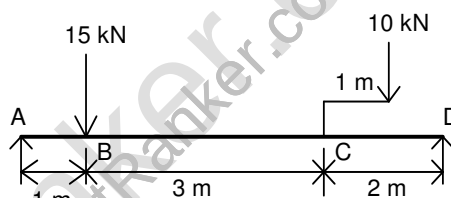

Fig. 1
b) Draw shear force and bending moment diagrams for a beam of 6 m long and loaded as shown in Fig.1 and indicate the main values. (4M+11M)